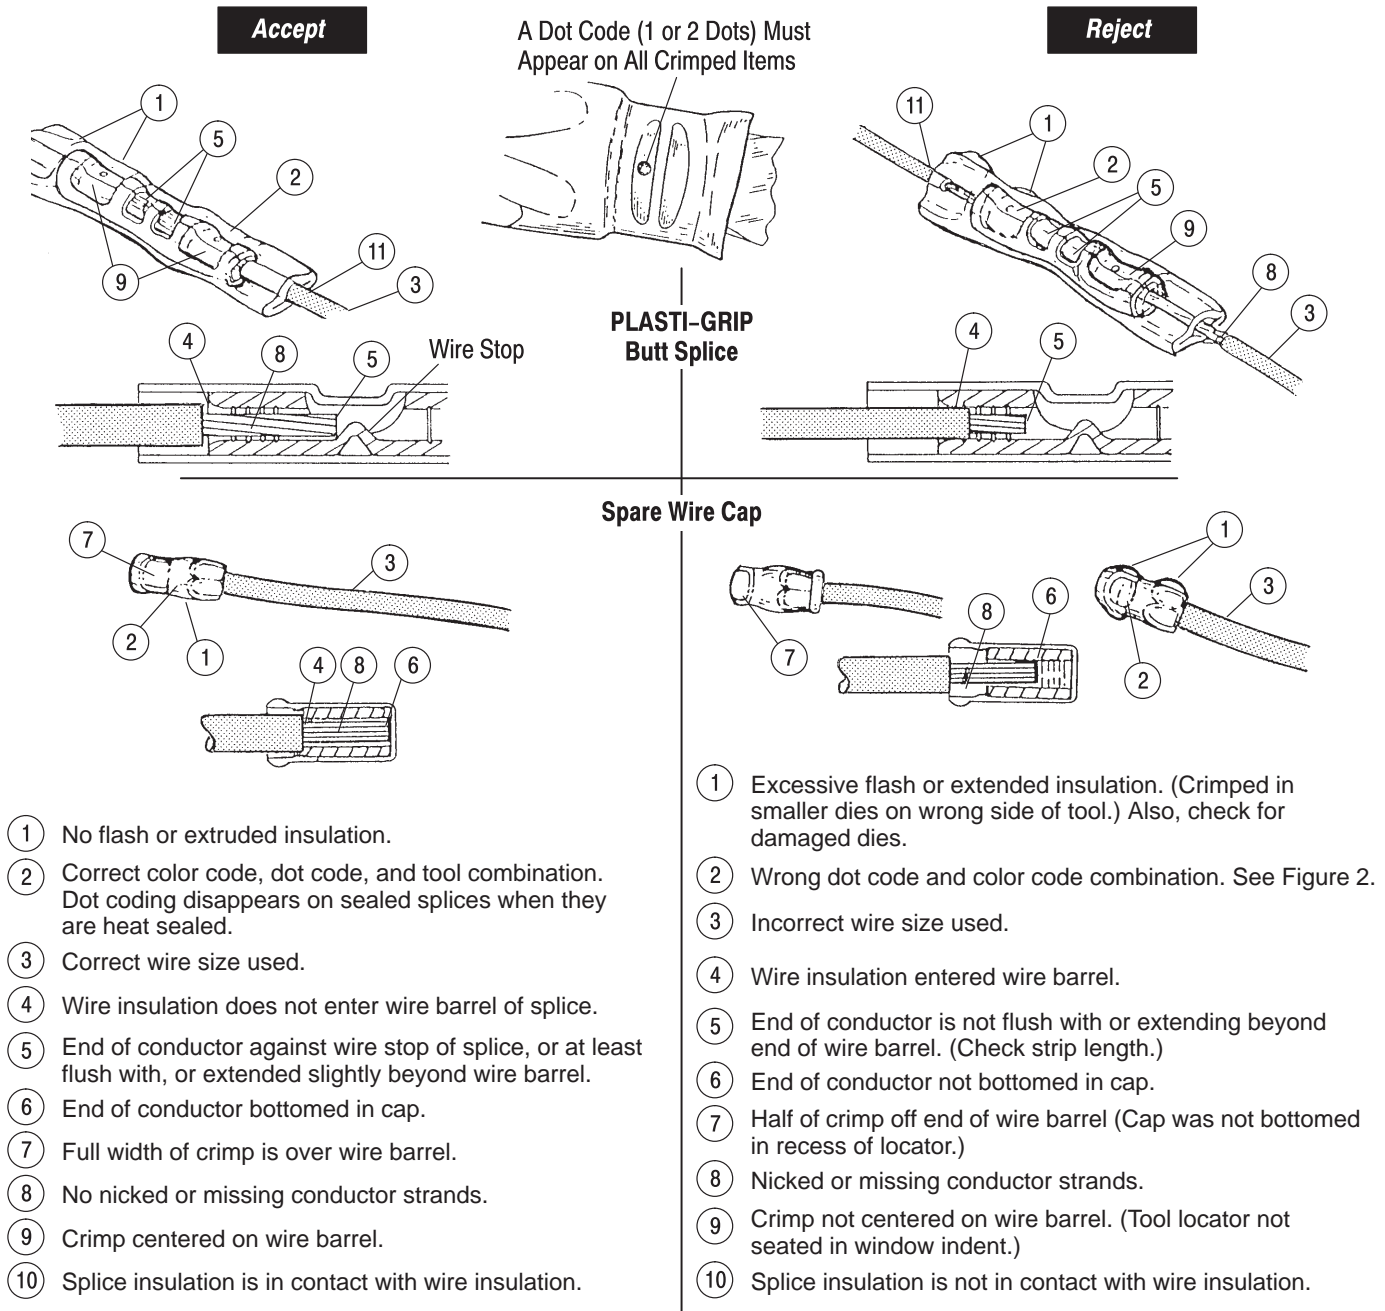

Figure 7
8. Refer to Section 6 and Figure 7 wire cap crimp inspection procedure.
- ① Insulation barrel is in firm contact with wire insulation.
- ② Correct color code, dot code, and tool combination.
- ③ Wire size is within wire range stamped under terminal tongue or on center of splice.
- ④ Crimp centered on wire barrel.
- ⑤ End of conductor is flush with, or extends beyond end of terminal wire barrel.
- ⑥ End of conductor against wire stop of splice, or at least flush with, or extended slightly beyond wire barrel.
- ⑦ Wire insulation does not enter wire barrel.
- ⑧ No nicked or missing conductor strands.
- ① Wire insulation extruded. (Insulation crimp too tight on PIDG terminals and splices) See Section 5.